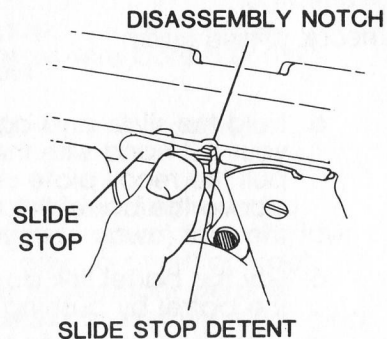

FIGURE 4
2. Pull the slide to the rear until the lug on the slide stop is aligned with the disassembly notch on the slide. Push the rounded end of the slide stop (on right side of receiver) to disengage it from the slide. (See Figure 4).